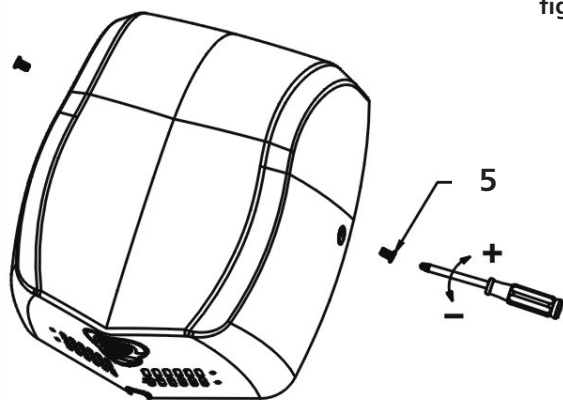
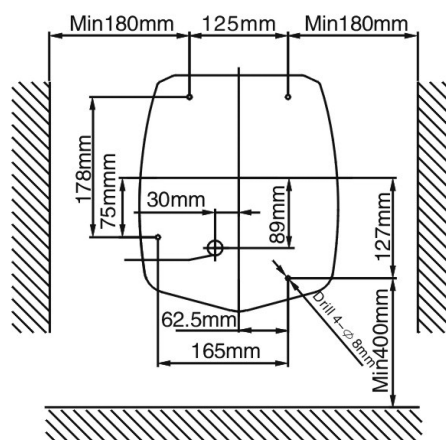

fig. 2
fig. 3
1. As showed in Fig. 2, remove screws at both sides of the hand dryer with the supplied Alan key, and take off the shell. Use the installation template provided (Fig. 3) to drill 4 x 8mm holes of 35mm deep.
4. There is an built-in heating element switch; if you want to shift between cold and warm air, take off the shell (Fig. 2), and operate the switch (as showed in Fig. 9) to make the shift (the default setting is warm air).